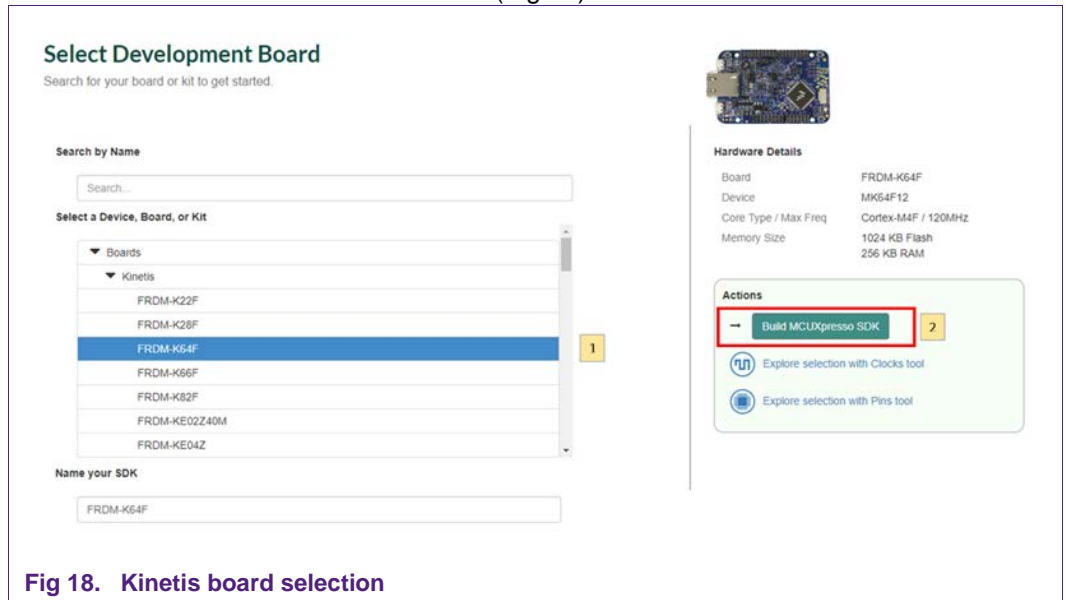

Fig 18. Kinetis board selection
1. Select your Kinetis FRDM board and click on 'Build MCUXpresso SDK'; in this case the selected board is the *FRDM-K64F* (Fig 18).